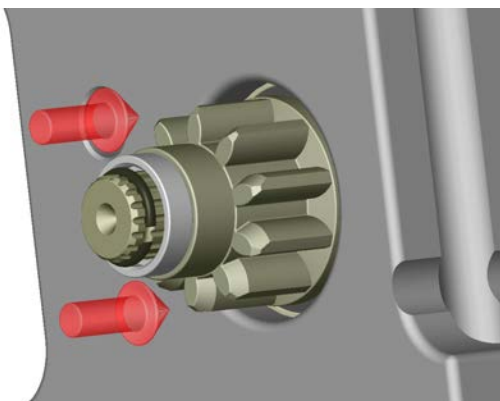

Figure 3
3. This will expose the *locking ring* on the end of the *pinion shaft* (Figure 3). Use a flat screwdriver to spread the *lock ring* and remove.